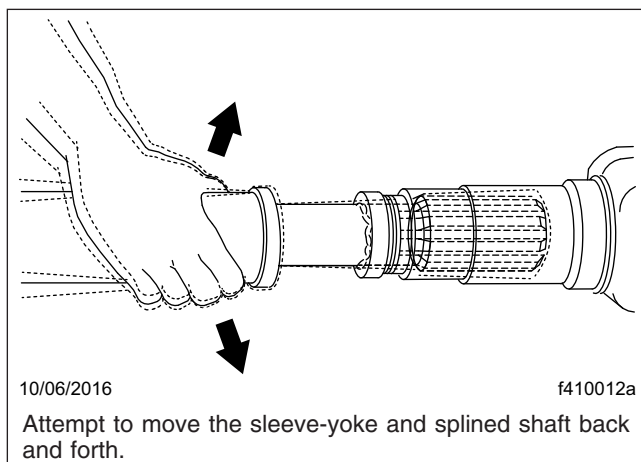

Fig. 5, Slip Joint Spline Wear Checking
6. Check slip joints for spline wear by moving the sleeve-yoke and splined shaft back and forth. See **Fig. 5**. If the slip joint can be twisted in a clockwise, or counterclockwise movement